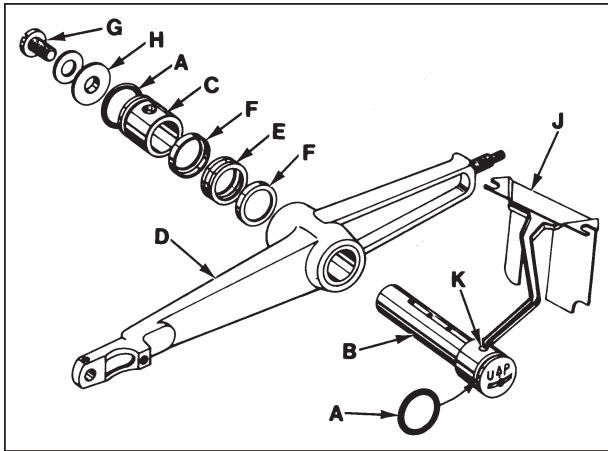

Fig 16
1. Install "O" rings (A, Fig. 16) onto needle lever stud (B) and thrust collar (C).
2. With needle lever (D) in machine and positioned properly; insert stud (B) through hole in needle lever until its shoulder contacts the needle lever and the word "UP" on stud is in the upright position. While making sure no binding exists in the needle bar link, secure stud (B) with the front set screw in top of machine bed.
3. Install temper load ring (E) and compression cups (F) onto stud (B), then push ring and cups through opening in machine bed.
4. Install thrust collar (C) onto stud (B) being careful not to damage "O" ring. Compress components together by tightening screw (G) until washer (H) bottoms against stud (B). Secure stud (B) in position using the rear set screw in top of bed.